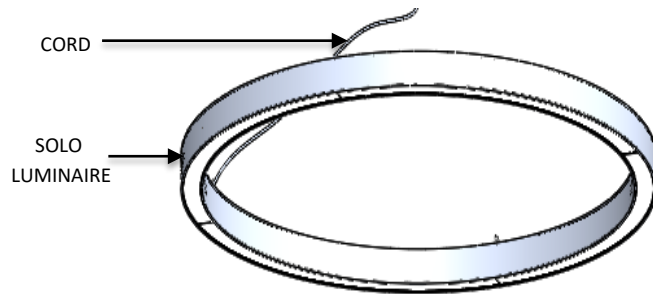

FIG. 2 - SOLO LUMINAIRE (PRE-ASSEMBLED)
1. SOLO LUMINAIRE with CORD attached. (Pre-assembled as shown in FIG. 2)